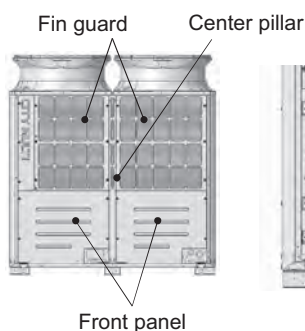

Figure 2
- (1) Remove the two front panels from the unit by unscrewing the 14 screws. (See Figure 2.)
- (2) Remove the fin guard by unscrewing the 12 screws. (See Figure 2.)